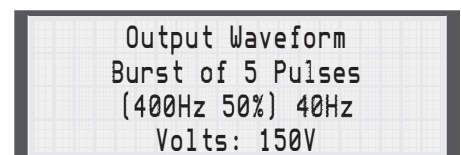

Fig. 2.31
8. You can now use the Arrow keys to review the settings for the burst of pulses (**Fig. 2.31**).